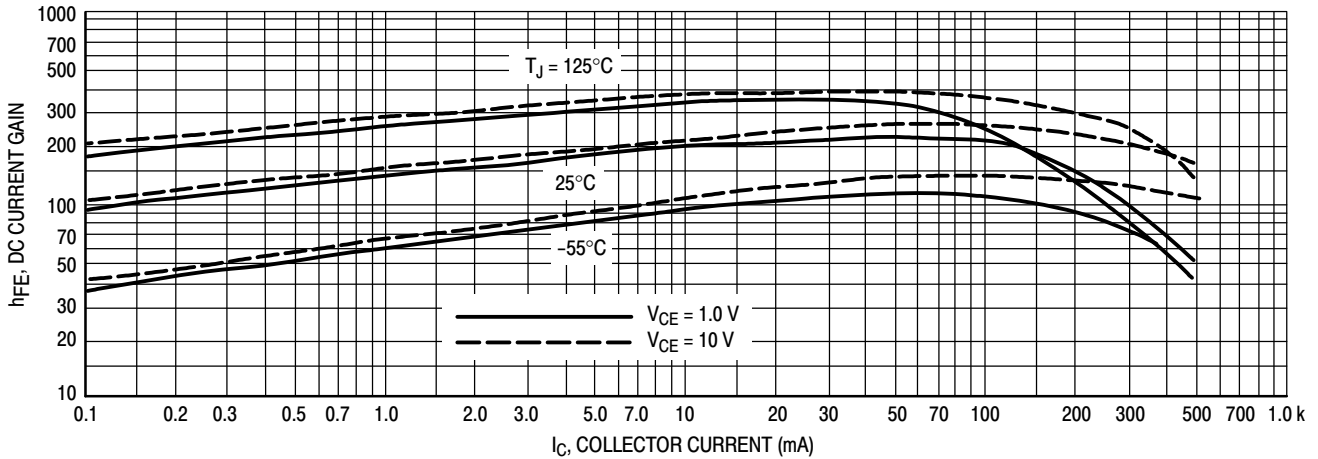

Figure 3. DC Current Gain
2. LEDs mounted in parallel should each be placed in series with its own current-limiting resistor. (Fig.3)